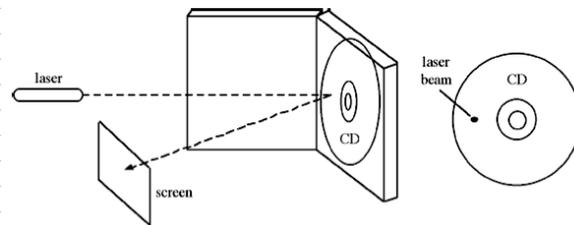

Figure 5
- (1) You won't see many bright spots, just a couple.
- (2) You don't need (or want) grazing incidence. You want normal incidence instead.
- f. The experimental setup is shown in figure 5 below: